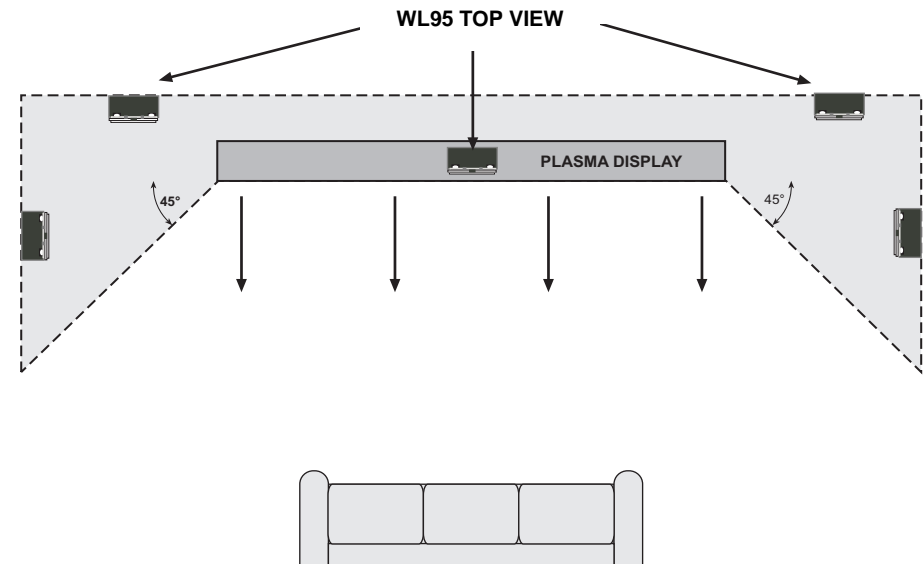

Figure 2 – WL series Placement
Placement of the IR Receiver does matter when used in the presence of a Plasma Display. Ideally it should be placed somewhere around the Display with the front of the receiver flush with the front of (or set back from) the Display. If the WL95 needs to be placed in front of the display (such as on an adjacent side wall perpendicular to the display), make sure it is placed at a location at least 45 degrees off axis from the corners of the unit – see **Figure 2**. The presence of Direct Sunlight and Fluorescent Lighting should not affect the reception of this unit.
Note: If using the STATUS LED feature, use 4-conductor cable in the appropriate gauge (see Figure 2)
2. Connect proper wires to the +12VDC, GND, STATUS (if applicable), and IR OUT terminals on the rear of the WL95 as shown in **Figure 2**.